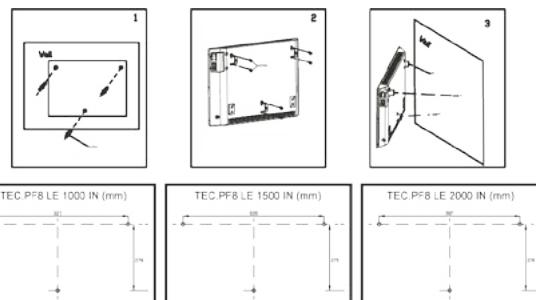

Fig. 3
**Wall mounting of the convector (Fig.3,4,5)** dimensions are given in mm.